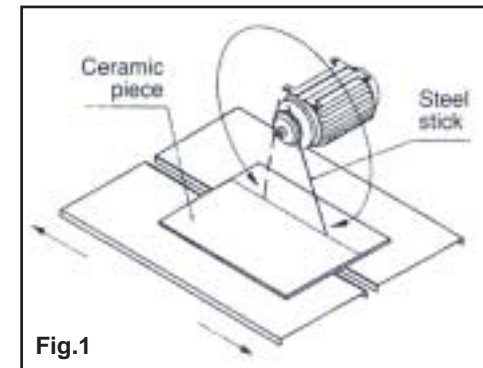

Fig.1
4. Put the ceramic tile on the saddle as indicated in Fig.1 with the glazed side facing down. Put some chalk on the visible side along the central line.